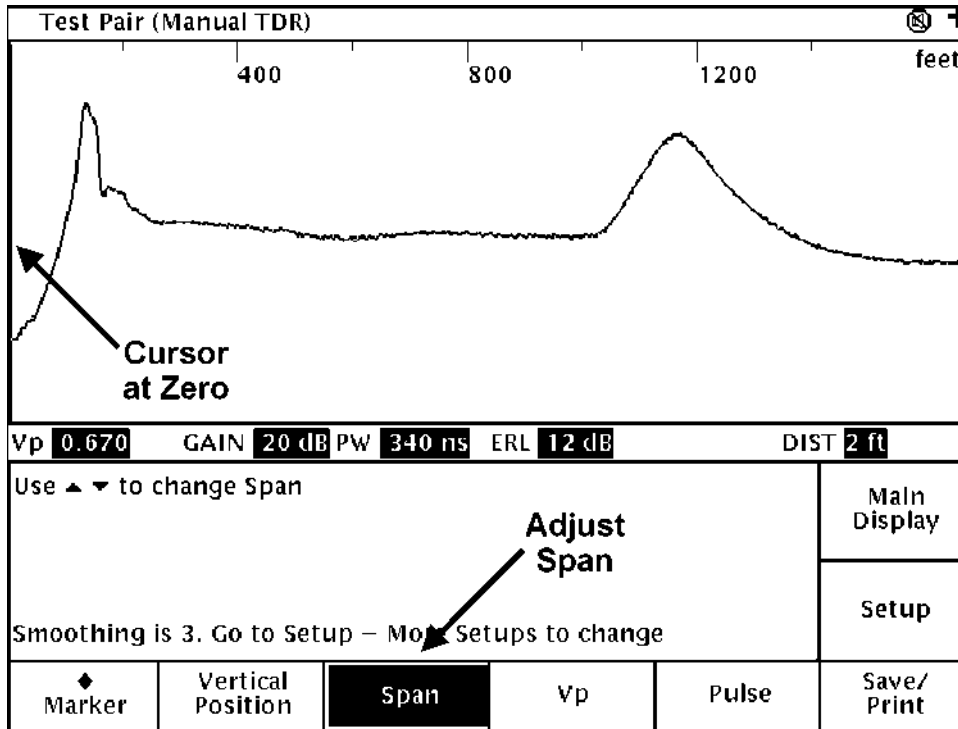

Figure 13-2. Adjusting the span.
Step 8. Use the up and down arrow keys to adjust the span so the open end of the cable appears on the right half of the display (see Figure 13-2).